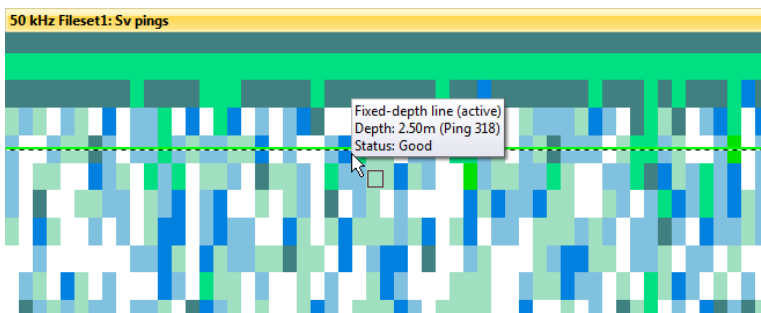

Figure 18. Echogram showing “Fixed-depth line” at a depth of 2.5 meters.
26. Click **OK** to close the **New Editable Line** dialog box and to see the *Fixed-depth line* on the echogram (Figure 18).